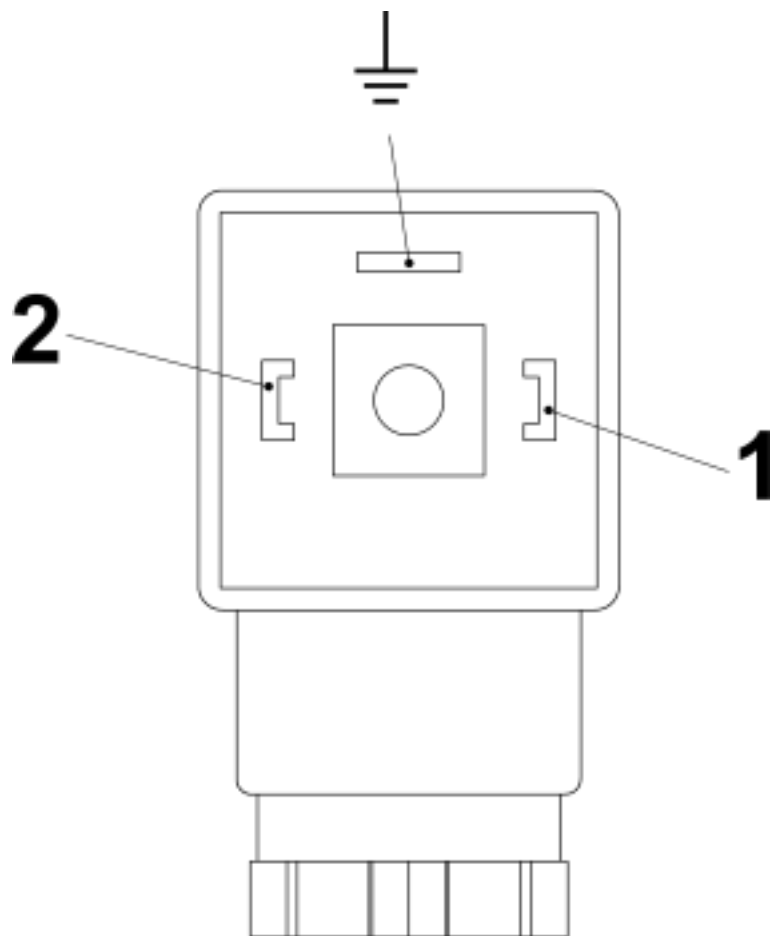
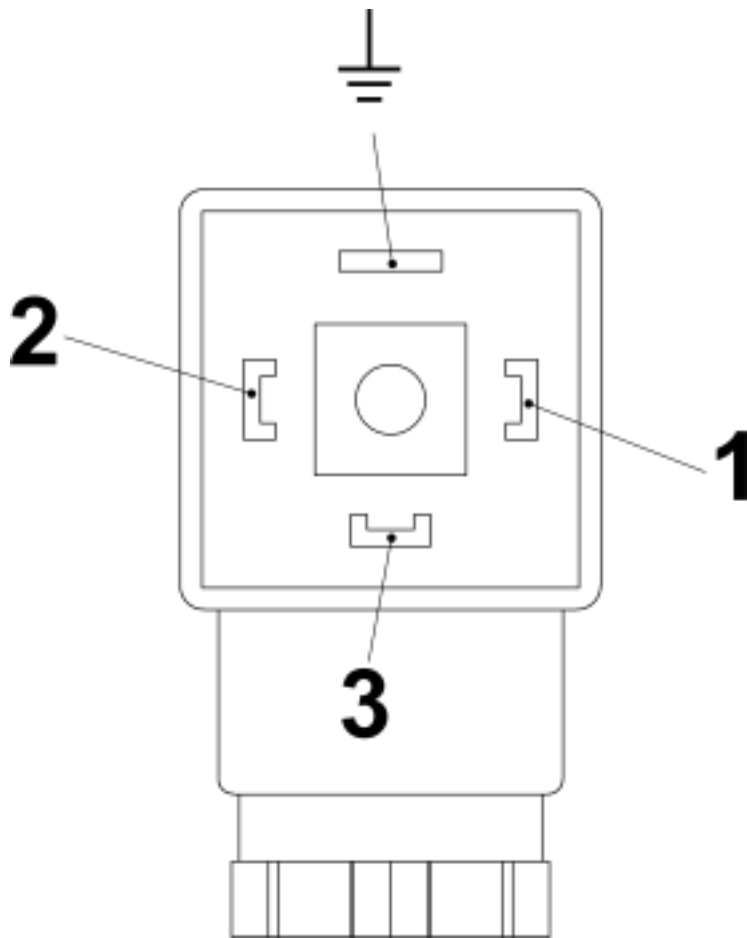

Fig. 32: Pin assignment, plug socket, normally open contact (SG-30 with connector in compliance with EN175301-803)
Fig. 33: Pin assignment, plug socket, change-over contact (SG-30 with connector in compliance with EN175301-803)
4. ➤ Disconnect the screw connection (1) by turning in the direction of the arrow.
6. ➤ Make the connections as shown in the connection diagram (Fig. 32 and Fig. 33).